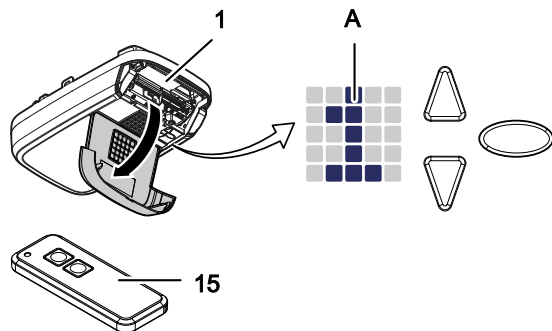

Fig. 4: Control elements
Mount the connector attachment (11) to the garage door (fig. 4).